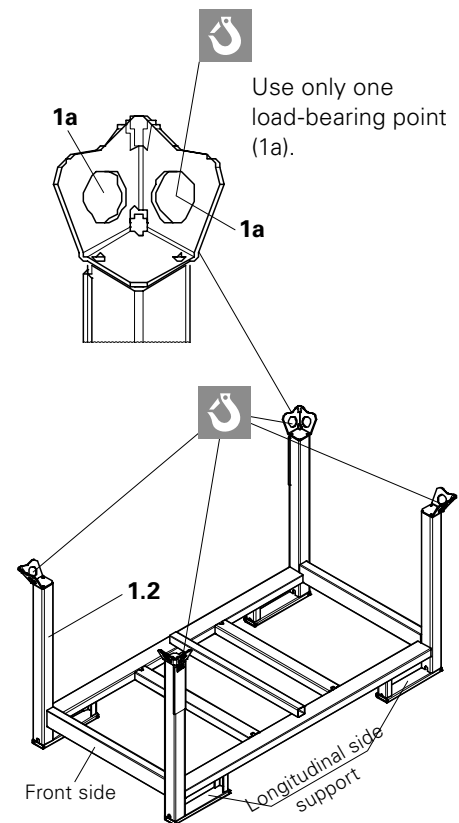

Fig. A1.01
Pallets are one possibility for storing and transporting push-pull props. (Fig. A1.01)
- Four load-bearing points per pallet. (Fig. A1.01)
All pallets (1.1/1.2) can be lifted using the longitudinal as well as front sides. (Fig. A1.01)